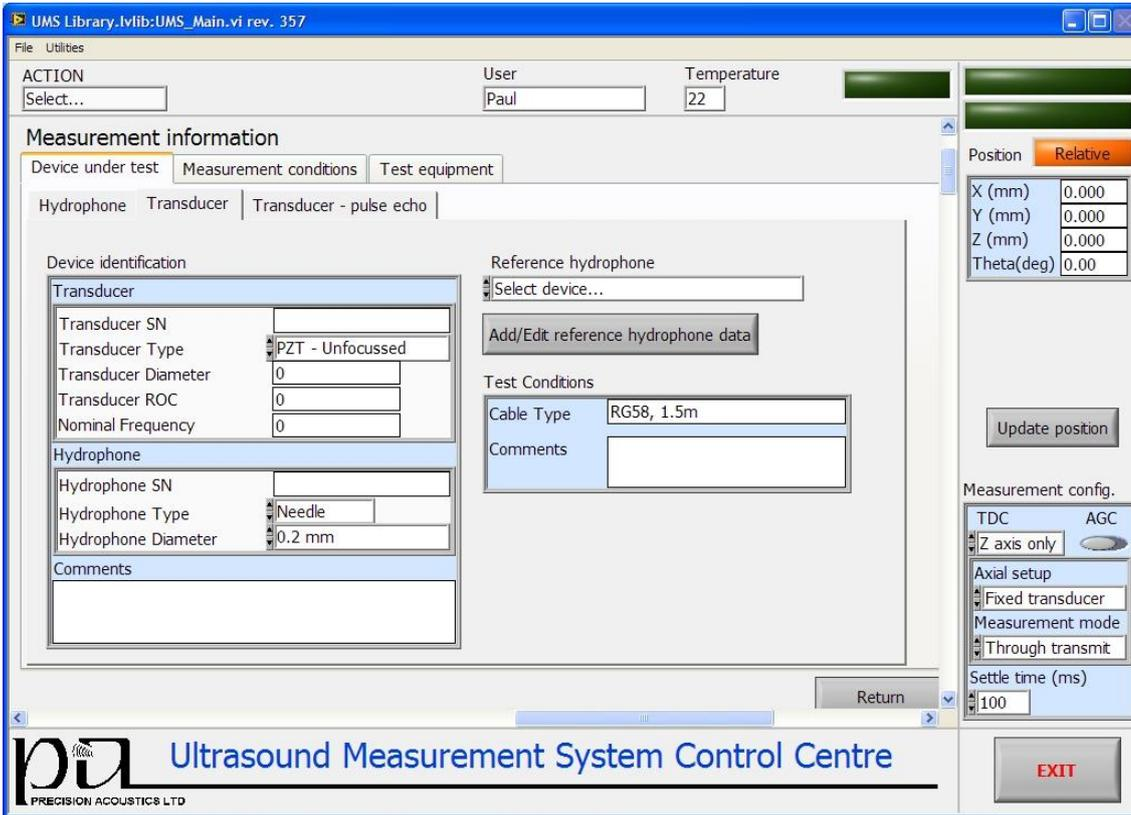

Figure 3. Set measurement information page
**<ACTION>Set measurement info>** allows the user to input system setup and measurement information relevant to the measurement task being undertaken. The measurement information page (Figure 3) contains a tab control allowing the user to enter information relating to the **<Device under test>**, the **<Measurement conditions>** and the **<Test equipment>** used for the set of measurements. The information entered is stored in the header of any data acquired and saved by the UMS software.